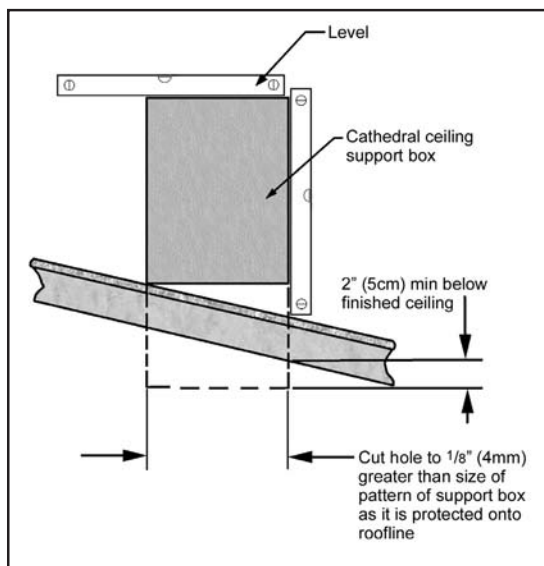

Figure 34: Cathedral Ceiling Support Box Leveling.
4. Lower the Support Box through the hole in the roof until the bottom of the Support Box protrudes at least 2 inches (5 cm) below the ceiling. Align the Support Box both vertically and horizontally with a level as shown in Figure 34. Temporarily tack the Support Box in the place through the inside walls and into the roof sheathing.